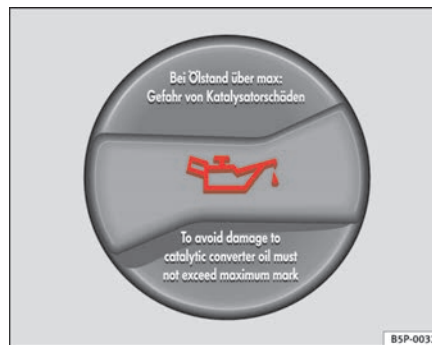

Fig. 157 In the engine compartment: Engine oil filler cap
- Unscrew cap from oil filler opening ⇒ fig. 157.